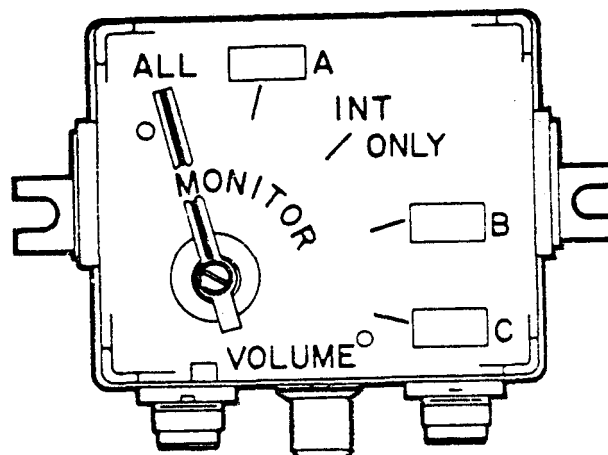

Figure 11-2. Crew Members Control Box
c. Normal Radio and Intercom Operation with Crew Members Control Box. See figure 11-2.